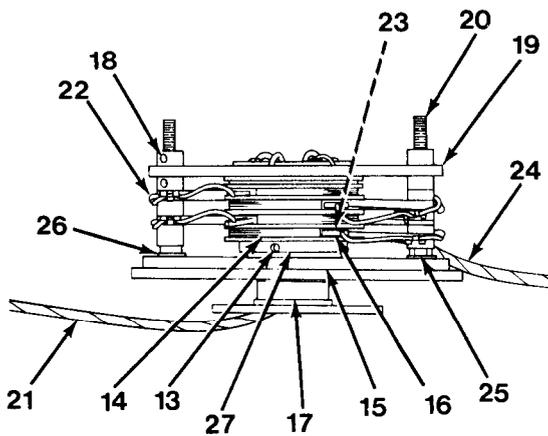
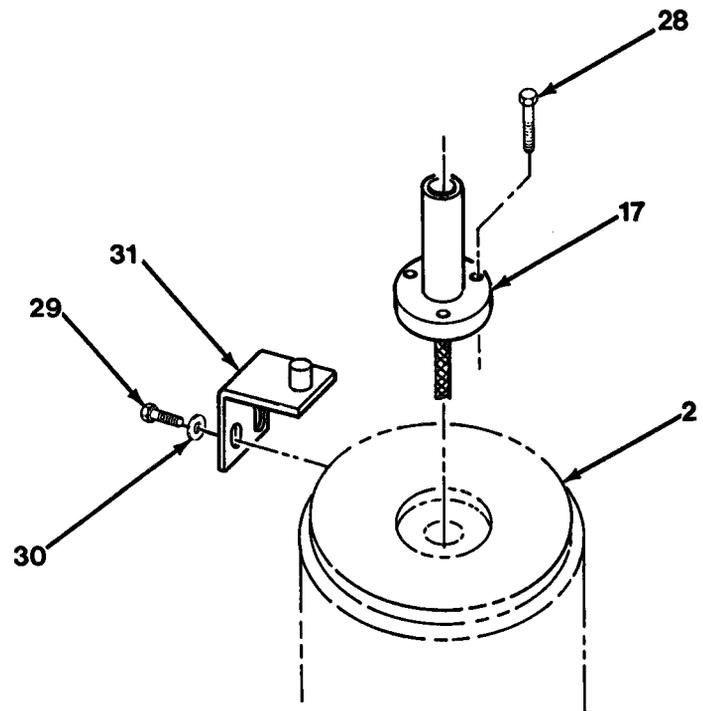

Figure 10-3
Figure 10-4
7. Install bearing (27) in collector ring base (15, Figure 10-3) .
8. Install two nuts (25) and washers (26) on two studs (20). Install two studs (20) in collector ring base (15). Secure two nuts (25).
9. Connect upper harness (24) to brush assemblies (16).
10. Install four springs (23) in four brush assemblies (16).
11. Install nylon shim(s) (22) and brush assembly (16) on two studs (20).
12. Connect lower harness (21) to collector ring core (14).
13. Install lower harness (21) and collector ring core (14) through collector ring base (15). Slide collector ring core (14) into brush assemblies (16). Make sure brush assemblies (16) are on correct ring.
14. Install two of four set collars (18), bearing (19) and remaining two set collars (18) on studs (20).
15. Install three setscrews (13), if removed.
Install collector ring core (14) and collector ring base (15) as an assembly on mounting column (17). Align hole in collector ring base (15, Figure 10-3) with bracket (31) on rotary manifold (2, Figure 10-4). Torque three setscrews (13, Figure 10-3) to 45 to 55 lb-in (5.1 to 6.2 N•m).